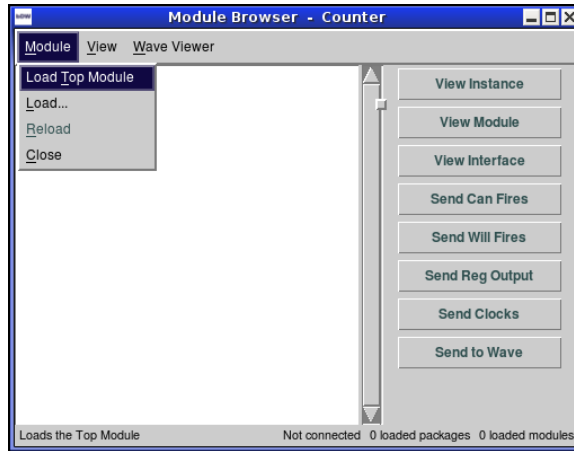

Figure 7: Module Browser - Module Menu
2. Load the top module (**Module**→**Load Top Module**), as shown in Figure 7. to obtain the module hierarchy from the `.bi/.bo` files.